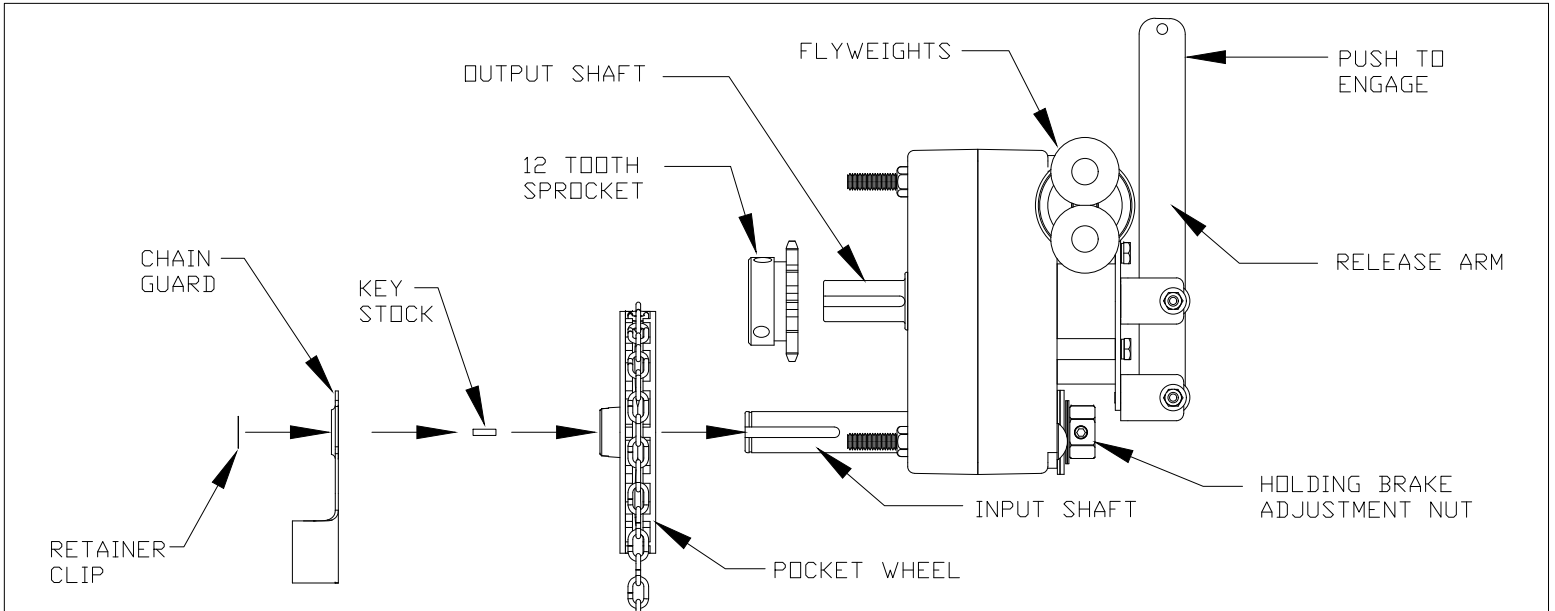

FIGURE 1
- b. Install 12 tooth drive sprocket with key stock to output shaft shown in Figures 1 & 2.
- a. Loosen the set screw on the holding brake adjustment nut as shown in Figure 1.